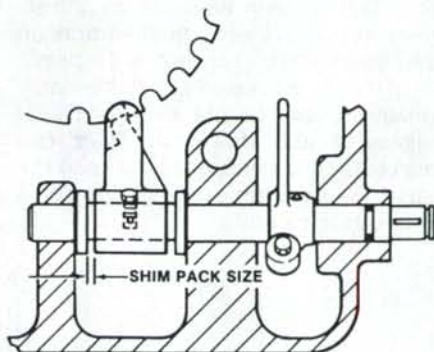
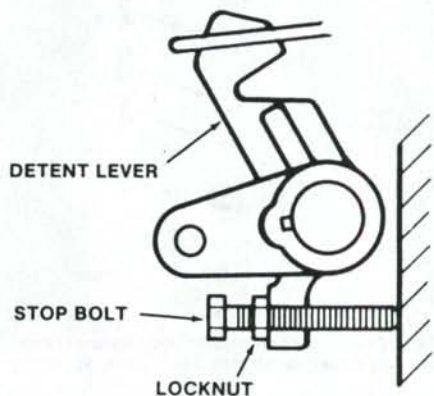

Fig. 200—Illustration showing procedure for finding left hand shim pack of park lock shaft. Refer to text.
Fig. 201—Illustration showing stop bolt for detent lever travel adjustment. Refer to text.
0.150 inch (3.81 mm) from this end travel to obtain correct shim pack thickness (4—Fig. 195) for right side of gear stop arm. To obtain the correct shim pack for the left hand side of the gear stop arm, subtract the right hand side shim pack thickness from the total end travel found in the first measurement. See Fig. 200. Remove shaft and related parts, install proper shim packs for left and right side of gear stop arm, and reinstall shaft and parts with new "O" ring (16—Fig. 195). Apply Loctite 271 or equivalent to set screw (6) on gear stop arm and install and tighten to 15-20 ft.-lbs. (20.4-27.1 N·m) torque. Install roll pin (12) into detent lever (15). Install key (18), lever (20) and snap ring (21). Pull park lock lever away from transmission as far as possible and measure distance between transmission case and back of lever with feeler gage and record measurement. Remove lever (20) and add sufficient shims (19) to obtain a clearance of 0.040-0.100 inch (1.016-2.540 mm) between lever and transmission. Disengage park lock and adjust stop bolt (13) on detent lever (15) until face of gear stop arm is 0.25 inch (6.35 mm) away from park lock gear as shown in Figs. 201 and 202.